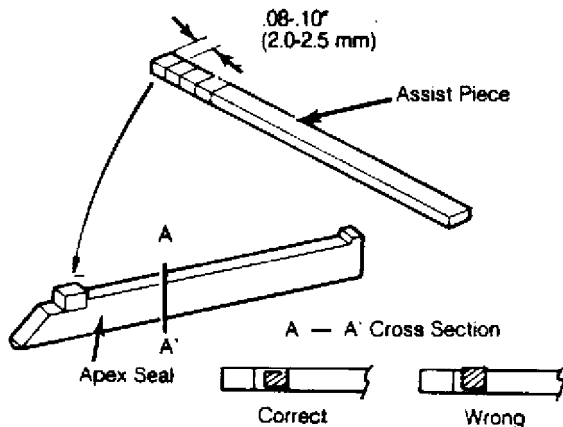

Fig. 20: Installing Assist Piece on Apex Seal
1) Before installing apex seal, cut the assist piece to a length of .08-.101" (2.0-2.5 mm). Peel off paper and install assist piece of apex seal. See Fig. 20.